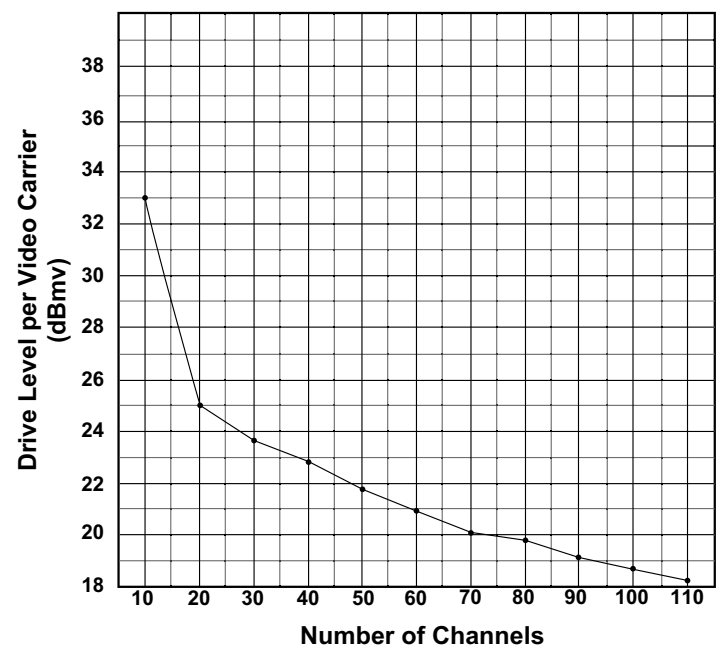

Figure 3.1 – Transmitter Level per Channel vs. Number of Channels
- A. RF Level Adjust** - Provides 4 dB of variable attenuation of the RF input level. Allows precise input level adjustment to the nominal level requirements noted in Fig. 3.1 to provide a green indication on the tri-color RF LED.